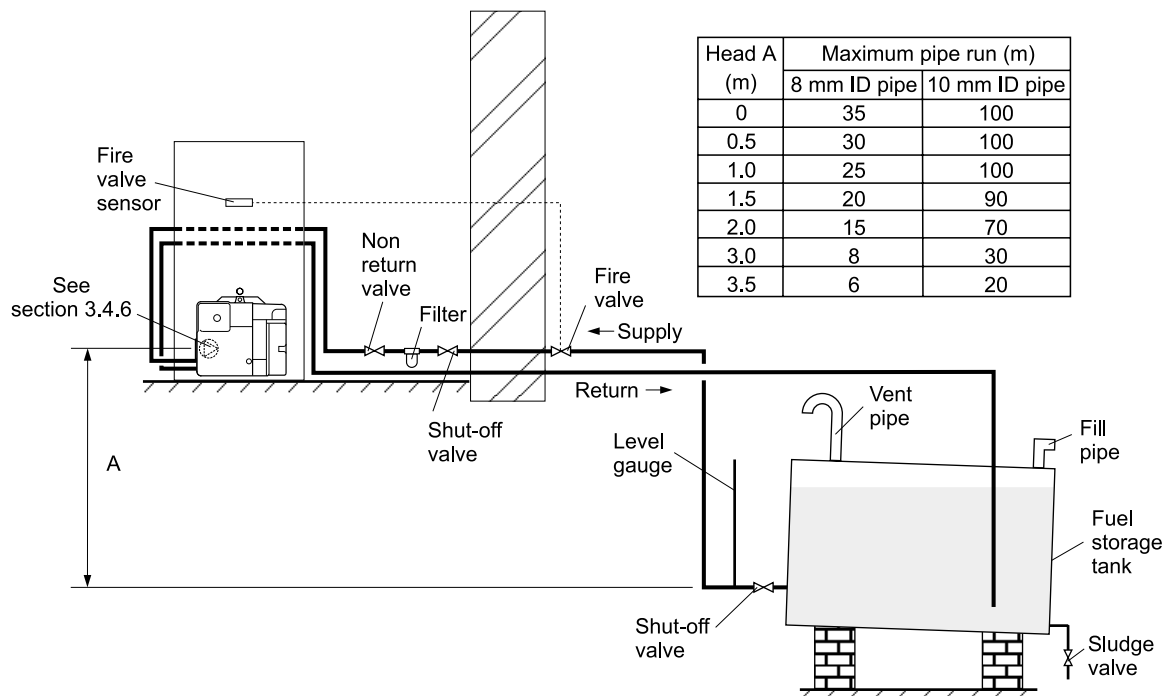

Fig. 3 - Two pipe system
3.4.4 Two pipe system - (See Fig. 3)
- When the storage tank outlet is below the burner, the two pipe system should be used. The pipe runs should be as shown in Fig. 3. The return pipe should be at the same level in the tank as the supply pipe, both being 75 to 100 mm above the base of the tank. The pipe ends should be a sufficient distance apart so as to prevent any sediment disturbed by the return entering the supply pipe.
- To be used with a two-pipe system, the burner **must** be fitted with an additional flexible fuel line (a flexible fuel line (900 mm) and $\frac{3}{8}$ " to $\frac{1}{4}$ " BSP male adaptor are available from Grant Engineering (UK) Limited). See section 3.4.6.**